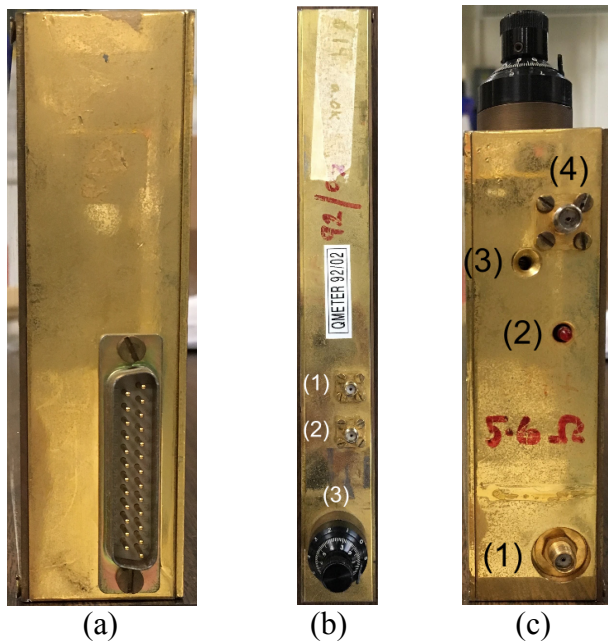

Figure 6.6: Q-meter: (a) front-view (b) top-view (c) back-view
The circuitry just discussed is housed within a rectangular box, which is called a Q-meter. The front of the Q-meter housing, shown in Fig. 6.6 (a), has one 25D connector which accommodates the power supply input and detected outputs. The top of the housing, Fig. 6.6 (b), has two SMA sockets labeled (1) and (2). The knob (3) is a fine adjustment knob for the tuning capacitor. The back of the Q-meter is shown in Fig. 6.6 (c). An RF signal is delivered to the Q-meter through socket (1). The inductive coil is attached at socket (4). The small hole (3) is an access port which allows for coarse adjustment of the internal tuning capacitor (by inserting a small flat-head screwdriver into the access port to adjust the capacitor). The light (2) is an indicator light.